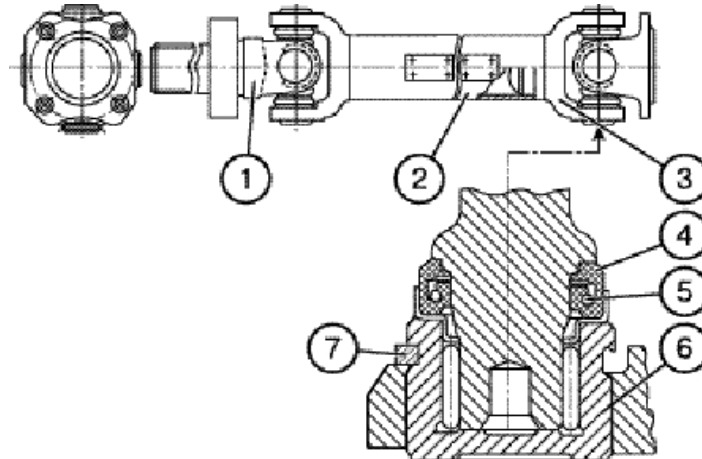

Fig. E-27. Cardan shaft:
The cardan shaft is intended for transmitting the torque from the GB to the FDA. The cardan shaft consists of a tube (2) and two hinges (1), (3) (Fig. E-27) with the cross bar running in needle bearings (6). The needle bearing cages are locked with retaining rings (7); the cross bars trunnions are provided with edge-joint packings (4) and self-tightening collars (5).